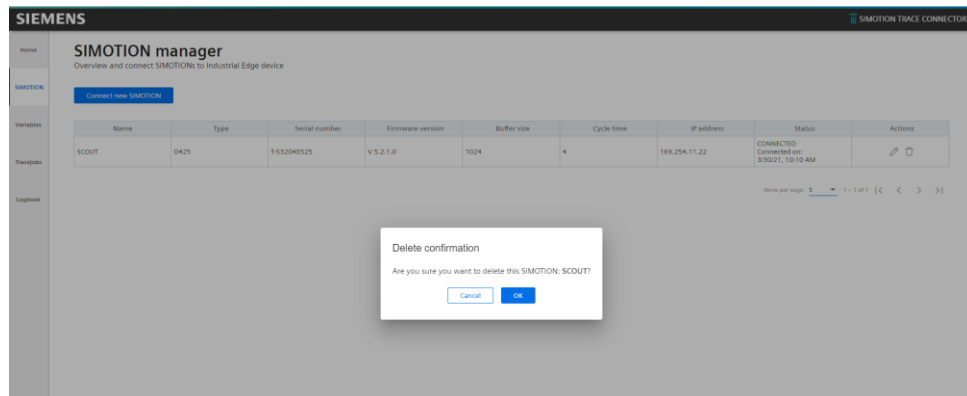

Figure 8 Delete SIMOTION
1. Click on “Delete” icon in “Action” column of selected table row. “Delete confirmation” popup should be opened (Figure 8)